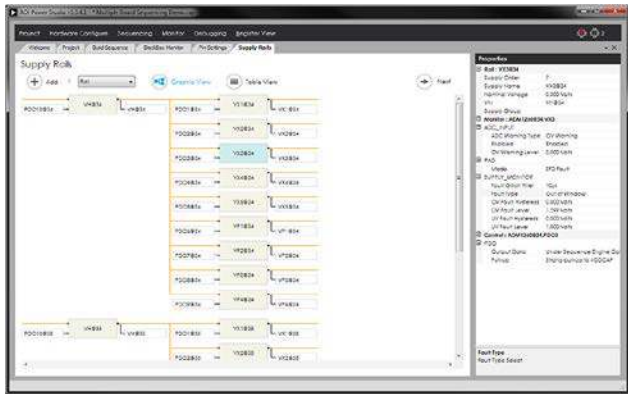

Figure 11. Supply Rails Tab
The input undervoltage (UV) and overvoltage (OV) thresholds can be modified by clicking the **Hardware Configure** tab and selecting the **Supply Rails** tab. The **Supply Rails** tab, as seen in Figure 11, shows a summary of all the voltage inputs and the PDOx outputs used for enabling the voltage rails. The supply monitor configuration, such as OV, UV, and PDOx, can be modified in the **Properties** menu on the right side of the window.